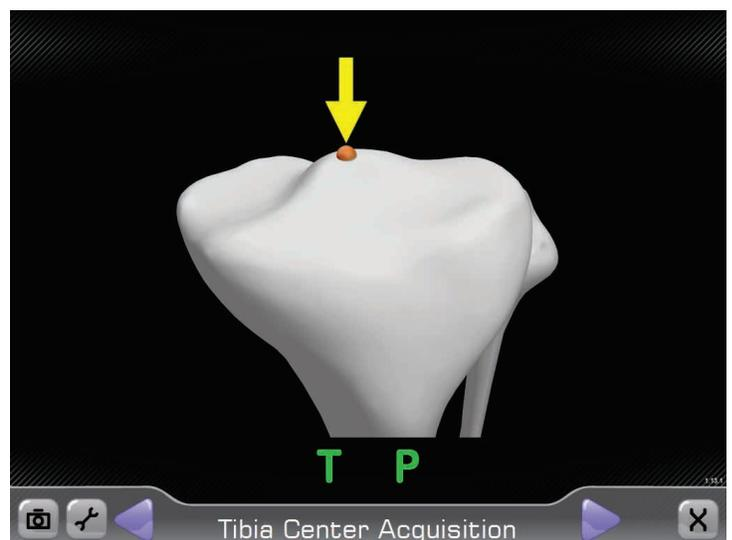

Figure 35
The Tibial Center Acquisition screen is displayed (Figure 35). Position the tip of the Probe Tracker (P) on the center of the proximal tibia and press the Forward button to register this point. The system will automatically advance to the next screen.